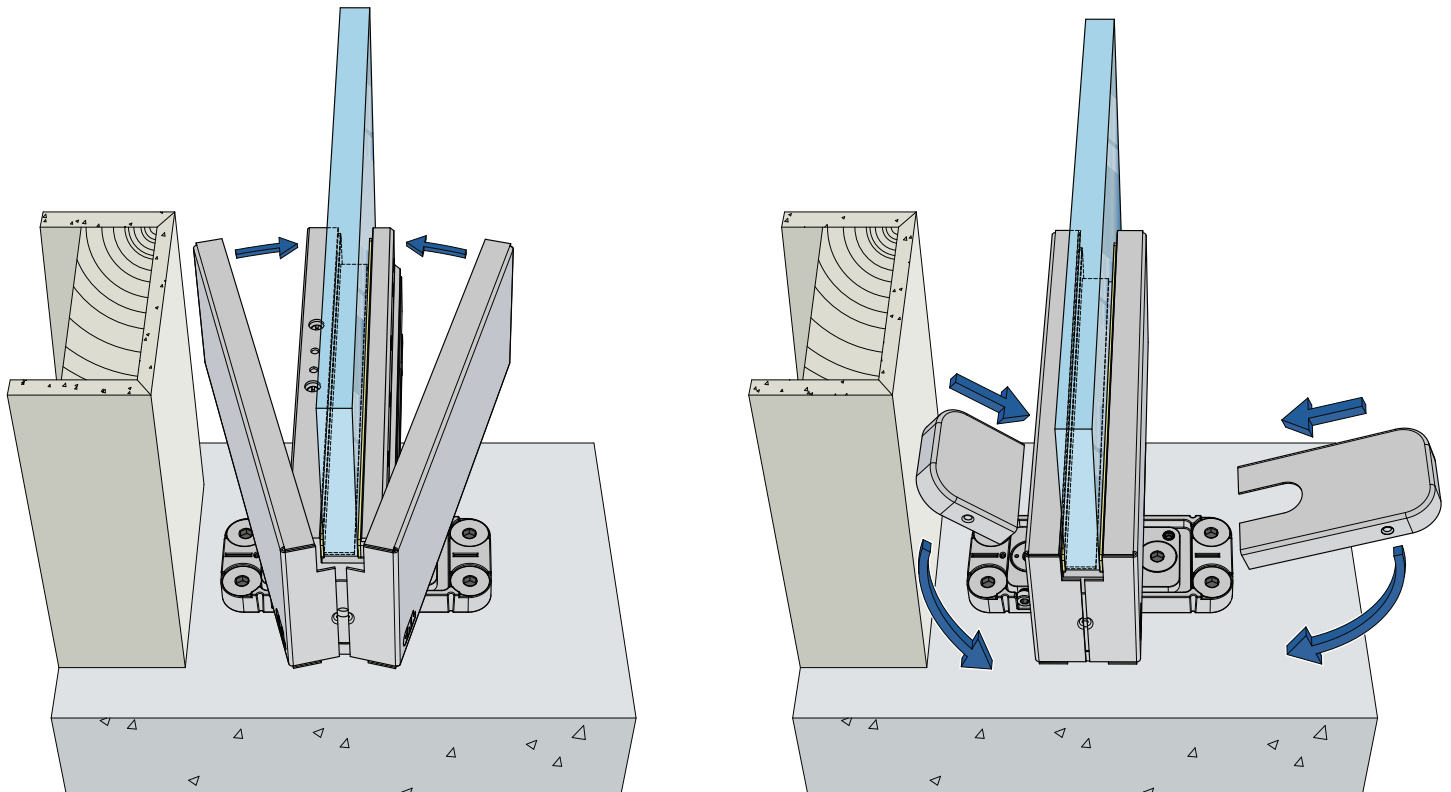

FIG. 11
9. Attach the cladding as shown. (Fig. 11)